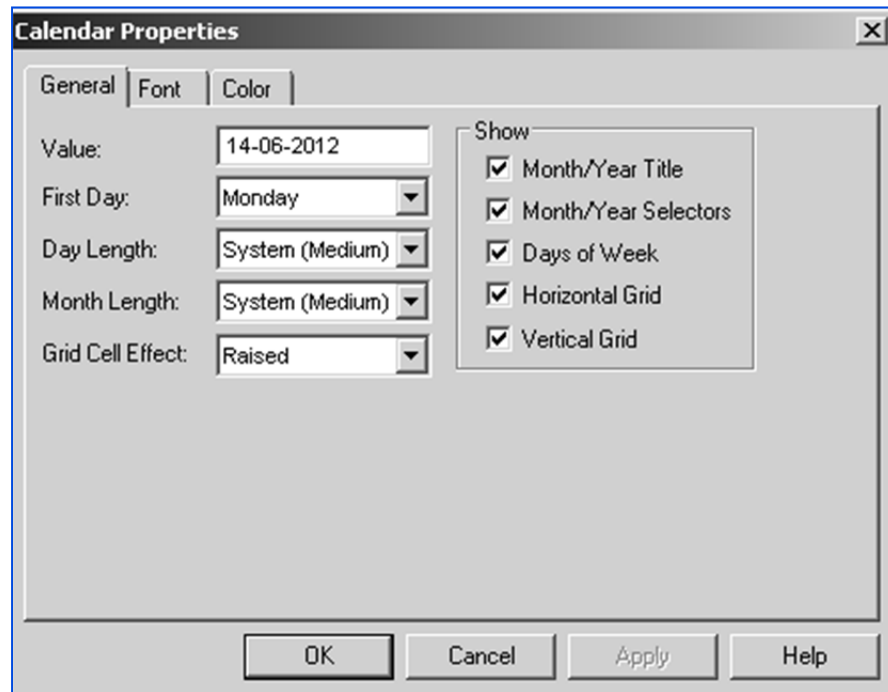

Fig. 2.3.6. Calendar Properties
7. To set other properties of Calendar control, click on  button in the *Custom property in Other* tab. The Calendar properties appear, as shown in Fig. 2.3.6.